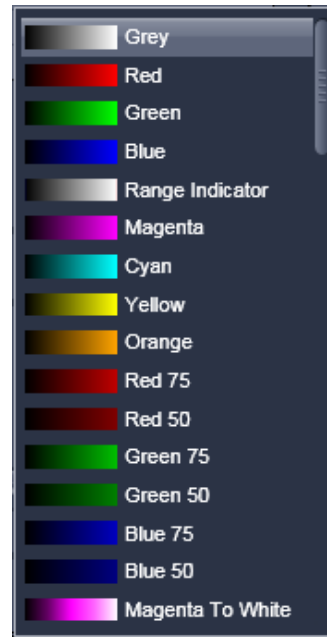

Fig. 97 Channel color selection
- Activate channel 1 via the check box. You may want to assign a different color to the channel which will be taken over for the initial display of the image. Click the channels icon to open the color table and select the desired color (Fig. 97).